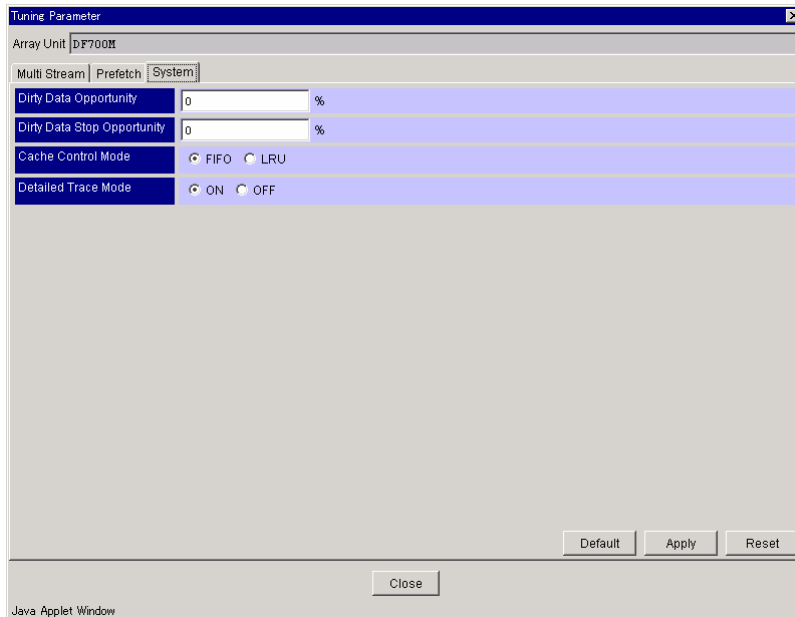

Figure 14.7 Tuning Parameter Window
2. Click the **System** tab. See Figure 14.7